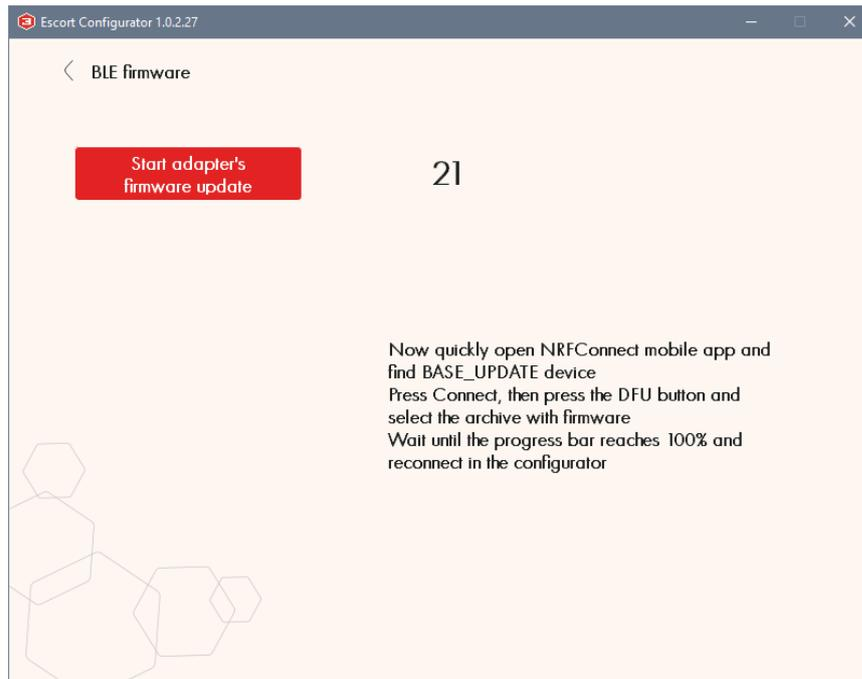

Fig. 11.4. Initiate the **Firmware update**
5. Click on the **Start adapter's firmware update** button (Fig. 11.4.) The 30 second timer will start off.